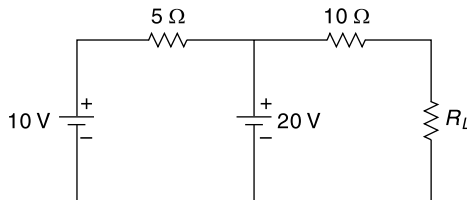

Fig. 4.113 Circuit of Ex. 4.82
4.82 Calculate the value of R_L which will abstract maximum power from the circuit shown in Fig. 4.113 Also find the maximum power.